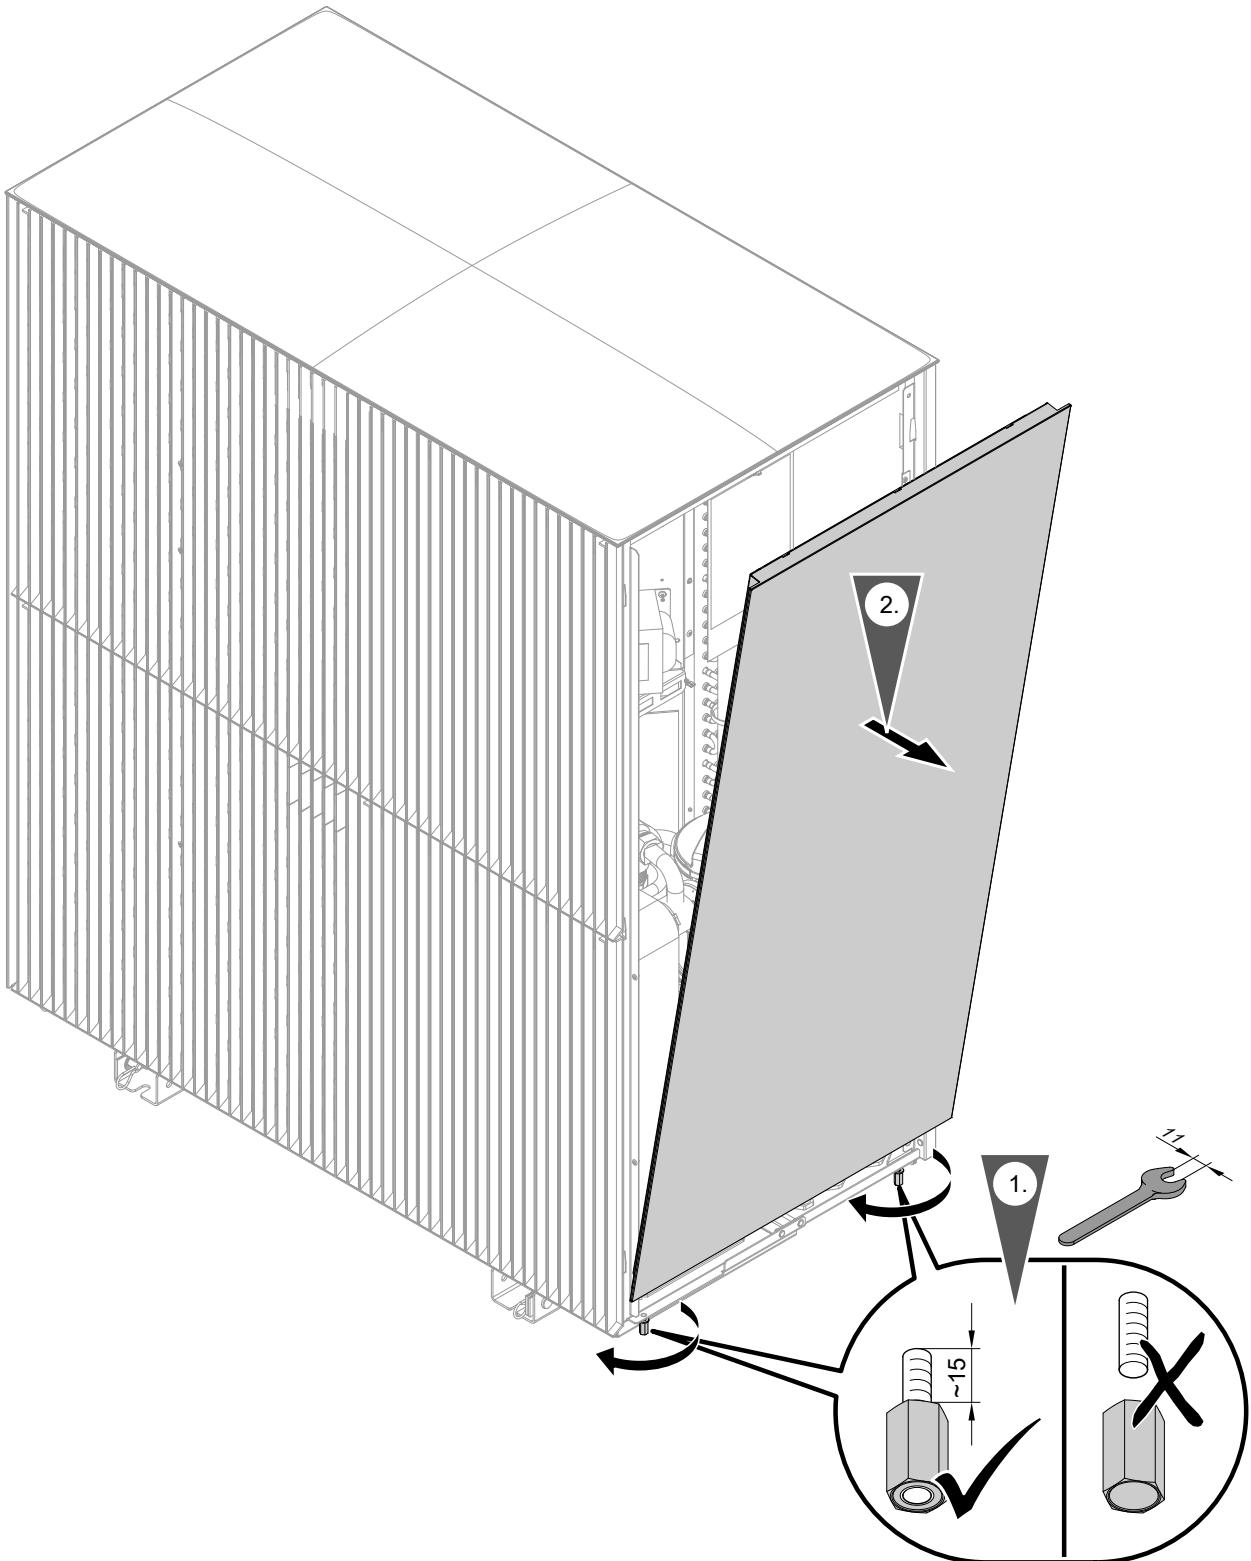

Fig. 104
1. Remove side casing, right: See Fig. 104.
6. Remove side casing, right: See Fig. 104.